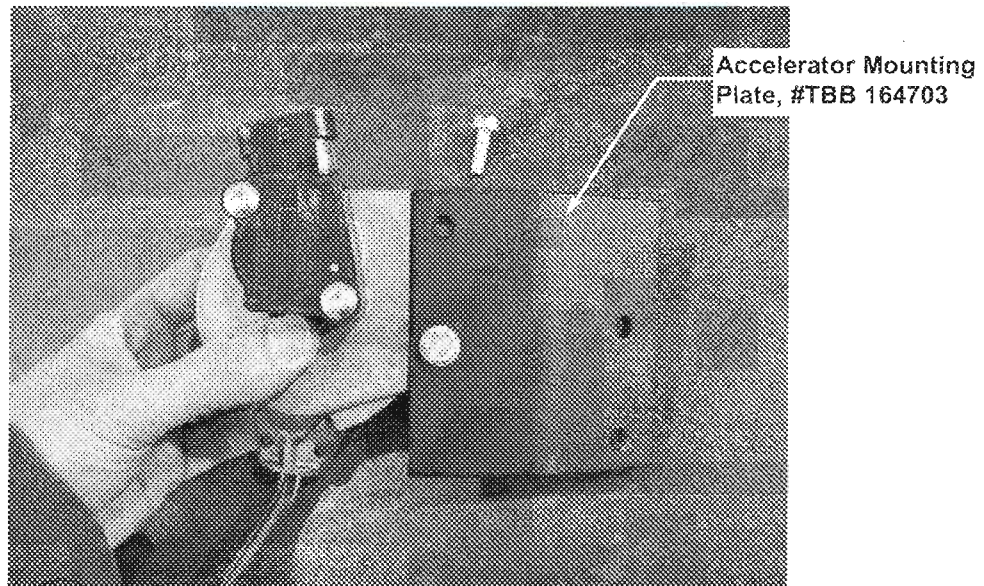

FIGURE 4
7. Remove the two 1/4" screws securing the mounting plate and discard the original mounting plate. Assemble the replacement Accelerator Mounting Plate, #TBB 164703 with the original screws. **Figure 4**